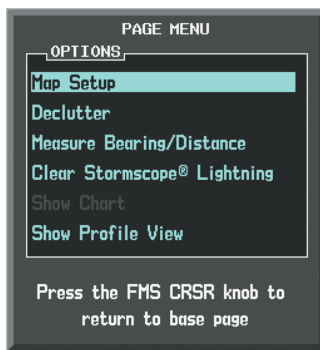

Figure 6-121 Navigation Map Page Menu
- 3) With 'Map Setup' highlighted, press the **ENT** Key (Figure 6-121).